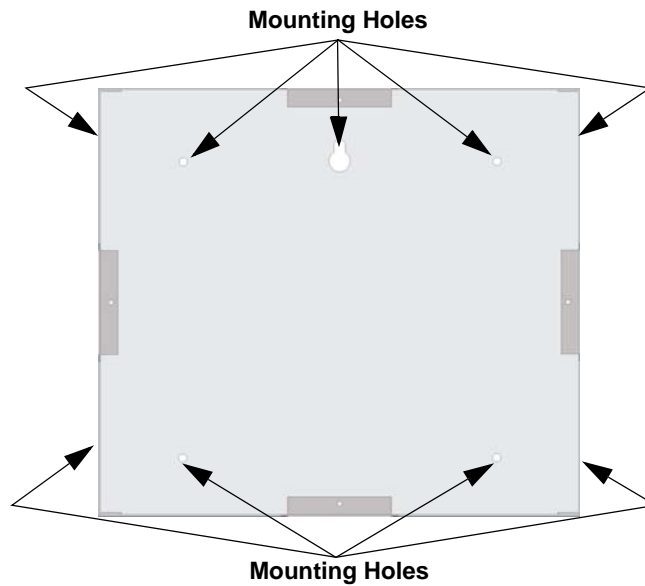

Figure 4-17 Back Box Mounting Holes
1. The back box dimensions are 9-9/32" W x 8-3/8" H. The minimum depth 2". The back box can be mounted prior to the complete installation of the 6855 using any of the mounting holes shown in Figure 4-17.